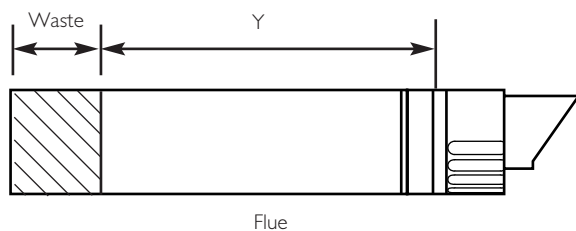

Fig. 40
5. Mark dimension 'Y' on the flue as shown (Fig. 40). Carefully cut the waste material from the flue, ensuring that the ducts are square and free from burrs.